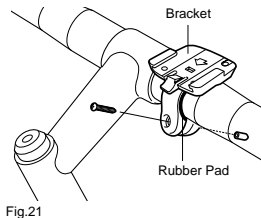

Fig.21
- By using the rubber pad, attach the bracket close to the handlebar stem (Fig. 21).